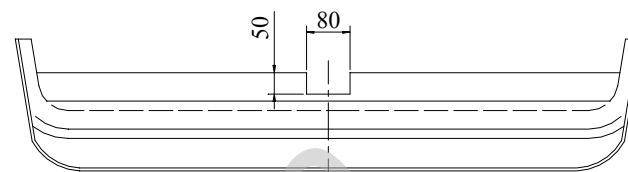

Fig. 2. Cut out
2. Cut the bumper according the fig.2